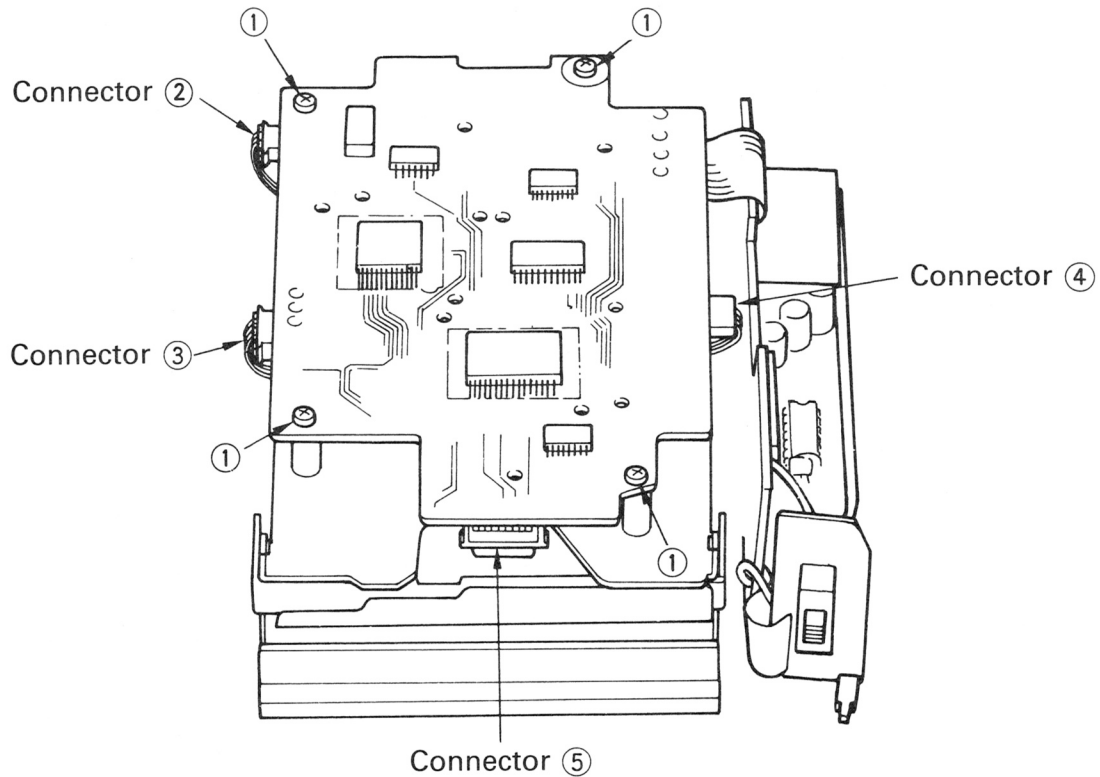
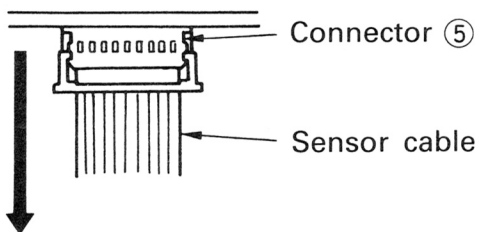

Fig. 3-5
Fig. 3-6
1. Refer to Fig. 3-5 and disconnect the 3 connectors ②, ③, and ④.
2. Loosen and remove the 4 set screws ①.
3. As shown in Fig. 3-6, remove the sensor cable after pulling off the outer part of the connector ⑤ in the direction of the arrow.